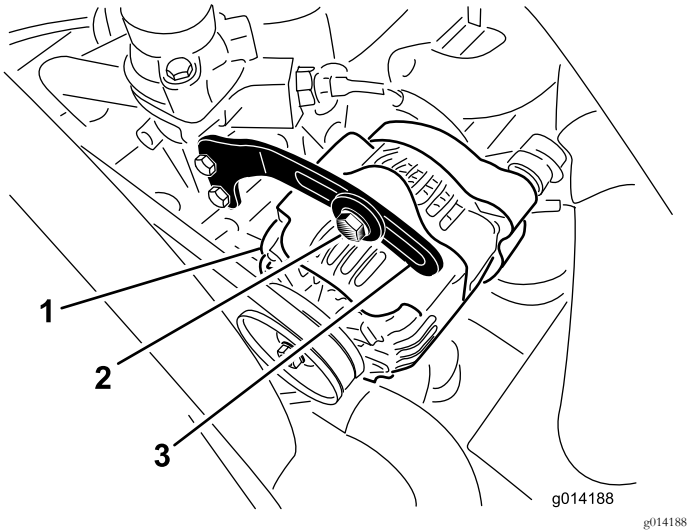

Figure 49
2. Check the tension of the alternator belt by pressing it (Figure 49) midway between the alternator and the crankshaft pulleys with 10 kg (22 lb) of force.
3. Loosen the bolt securing the brace to the alternator (Figure 49) and the alternator pivot bolt.